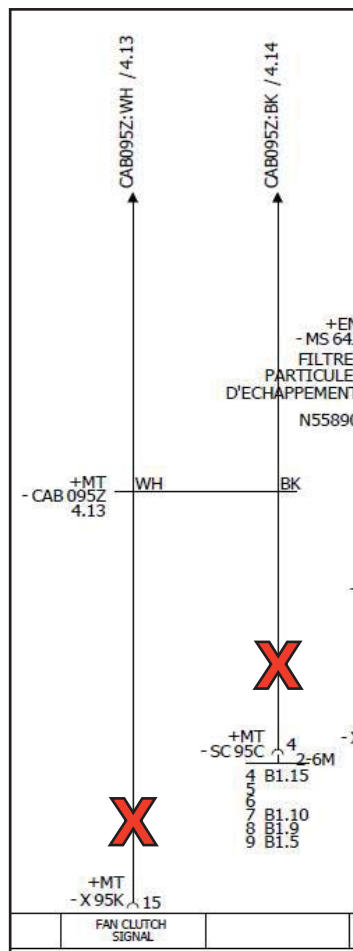

Figure 6 - Wires to be Removed and Insulated on +MT-X95K and +MT-SC95C Connectors
- 1.10. Remove the CAB095Z cable's 16 WH wire from the +MT-X95K connector (position #15) using the 682256 extractor tool or equivalent. See Figures 6 & 10.
- 1.13. Remove the CAB095Z cable's 16 BK wire from the +MT-SC95C connector (position #4) using the N8904487 extractor tool or equivalent. See Figures 6 & 10.